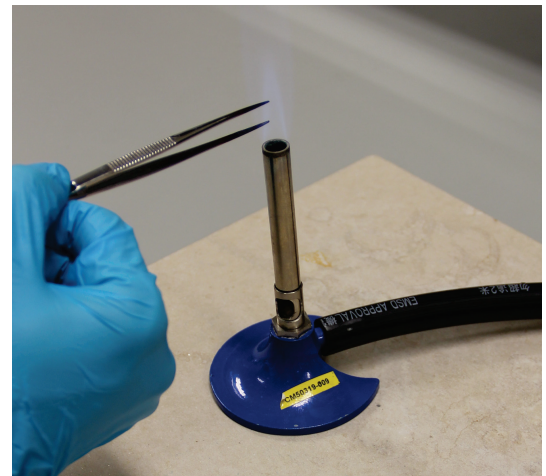

Fig. 2
4. Flame-sterilise the forceps and allow them to cool (Fig. 2).